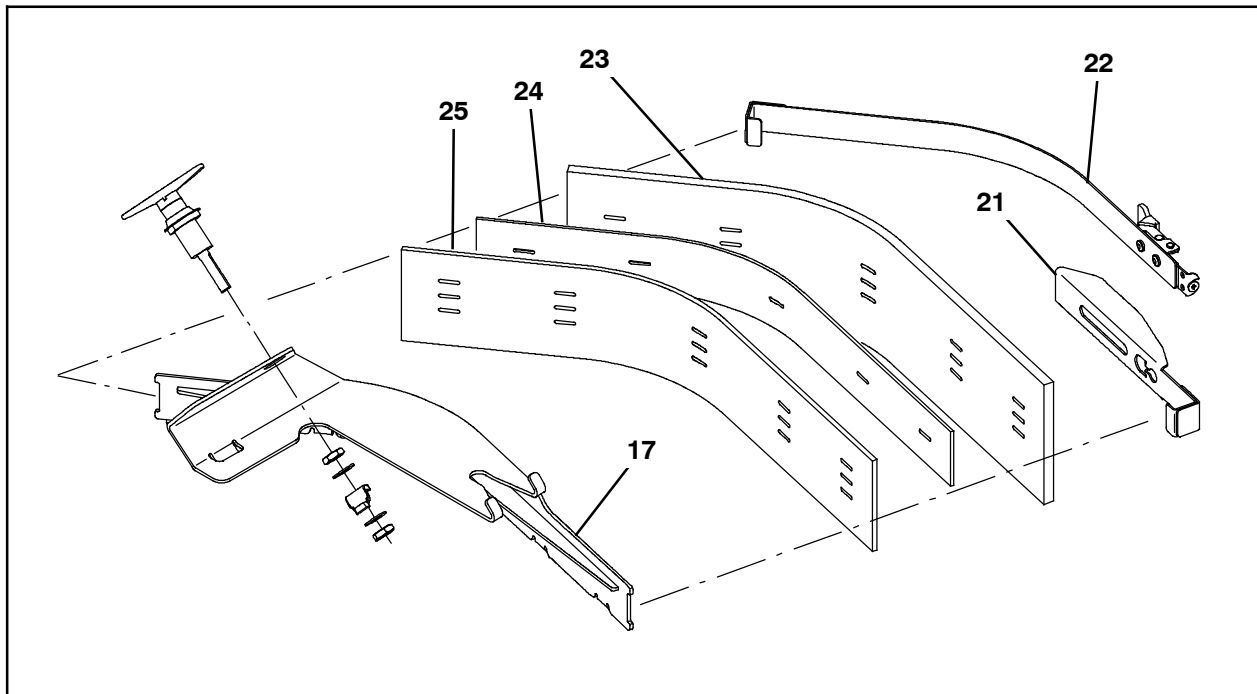

FIG. 29
assembly. (Fig. 29)
- 61. Install the squeegee assembly onto the side brush assembly. Refer to Operator Manual for instructions how to install the side brush squeegee assembly. (Fig. 29)